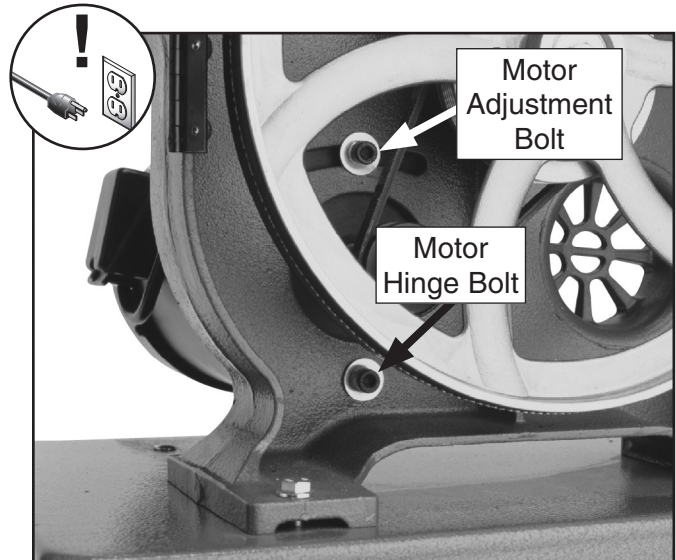

Figure 42. Motor mount bolts.
3. Loosen the motor mount bolts shown in **Figure 42**.